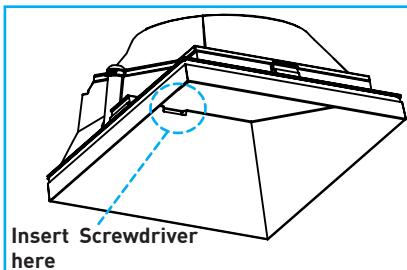

Fig.64
- Grasp baffle using soft gloves or with clean soft cloth and remove by pulling down or inserting small flat head screwdriver to wallwash baffles and carefully prying down as shown in *Fig.64*.
- A. Remove baffle by pulling down or inserting small flat head screwdriver to wallwash baffles and carefully prying down as shown in *Fig.64*. Remove optic (see E-1 on page 12).